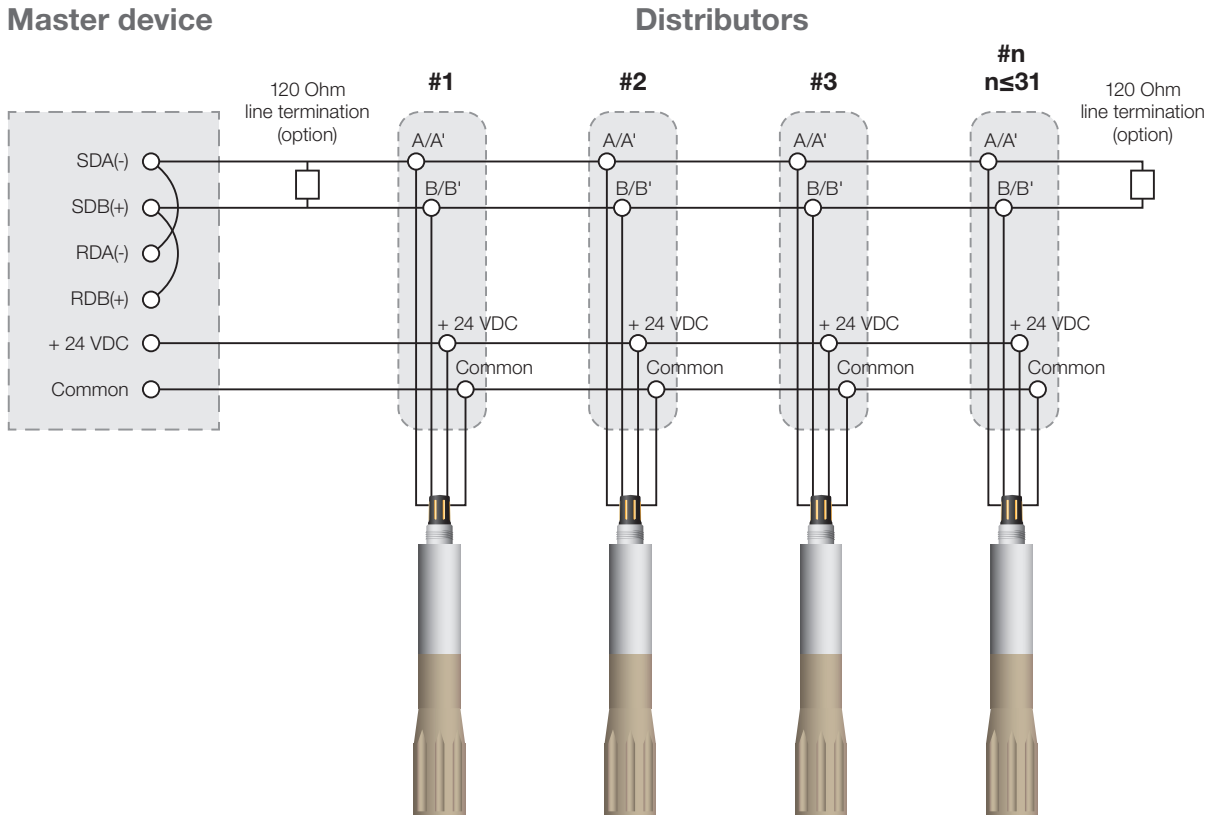

Figure 15: Multi-drop bus wiring for the Modbus two-wire mode. Each sensor functions as a Modbus slave.
**NOTE:** In the connection scheme shown above (see Figure 15), each Arc Module Incyte SU must have the unique Modbus device address for proper communication.